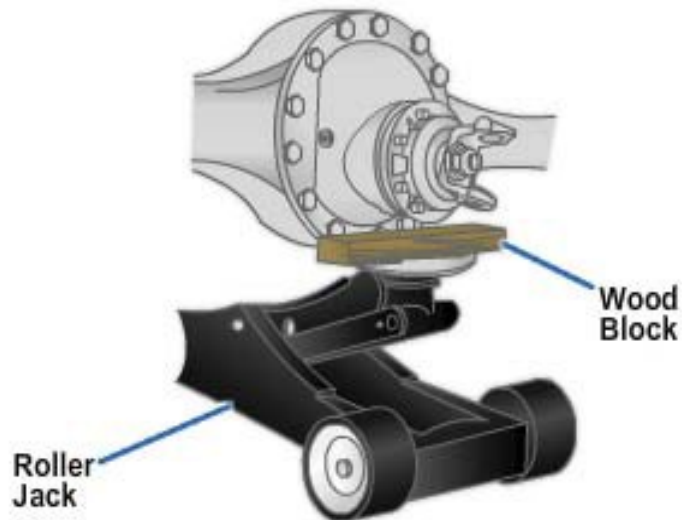

Figure 8-67 - Support the differential carrier with a hydraulic jack.
9. Place a differential jack, a transmission jack with a differential cradle, or a hydraulic jack under the differential carrier to support the assembly (*Figure 8-67*). The differential carrier should be properly fixed to the jack supporting it.